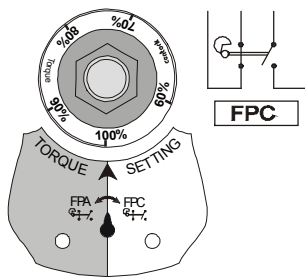
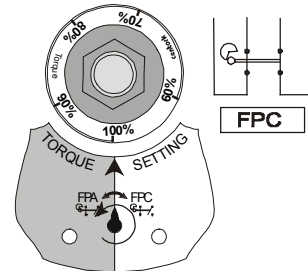

Fig. 8.6.1
Fig. 8.6.3
- When torque on valve shaft exceeds the value set, e.g. running to close, **T shaft** turns to the right (Pointing to FPC), at the same time central SHAFT releases (See figures 8.6.1 and 8.6.2). FPC microswitch is tripped. Automatically, or when actuator starts running to opposite direction, mechanism returns or resets. Notice that central SHAFT latches again. (Figure 8.6.3)